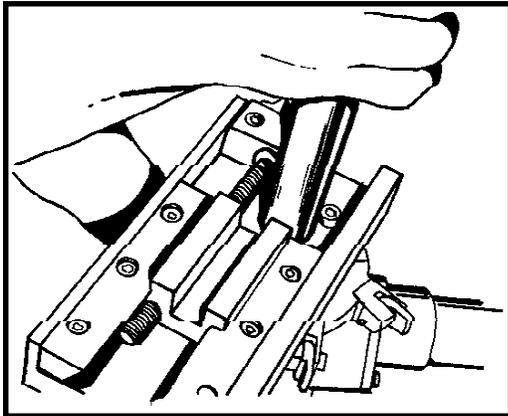

Figure 16
6. Insert Mandrel Assembly (Figure 16). (For further details, please refer to Page 9 Section A, "Placing Mandrel Into Machine Body")